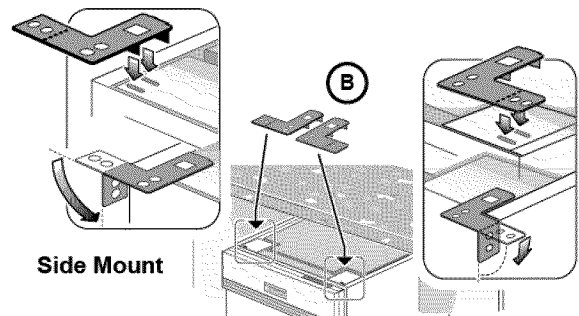

Figure 17
**Side Mount** is used for countertops made of marble, granite, or other very hard materials that cannot be easily drilled. Bend the mounting brackets along the small holes and in the same direction as the two small tabs. Orient the mounting brackets as shown in **Figure 17**, and position the two small tabs on the mounting brackets over the two slots on the dishwasher's front corners. Push the mounting brackets down firmly to insert the tabs into the slots. Bend perforated edge down as shown.